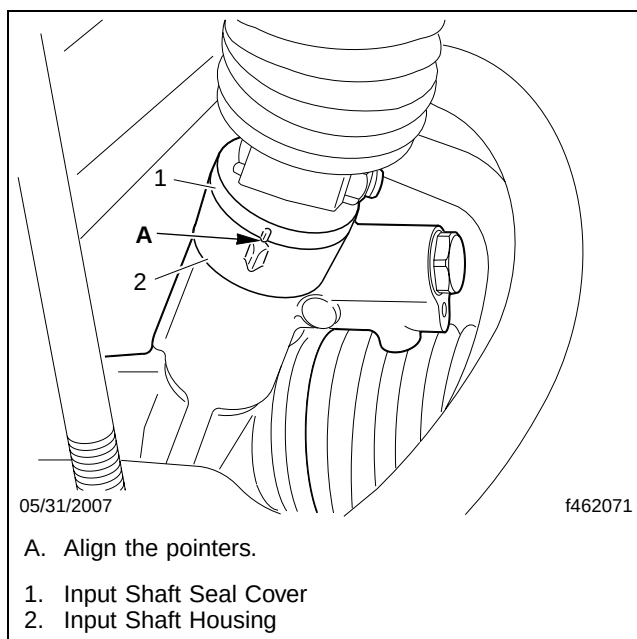

Fig. 14, Pointer Alignment
- 50.2 Align the pointers on the input shaft seal cover and the input shaft housing. See **Fig. 14**.
- 55.2 With the wheels on turnplates, center the rack travel by aligning the timing pointers on the input shaft seal cover and the input shaft housing. See **Fig. 14**.